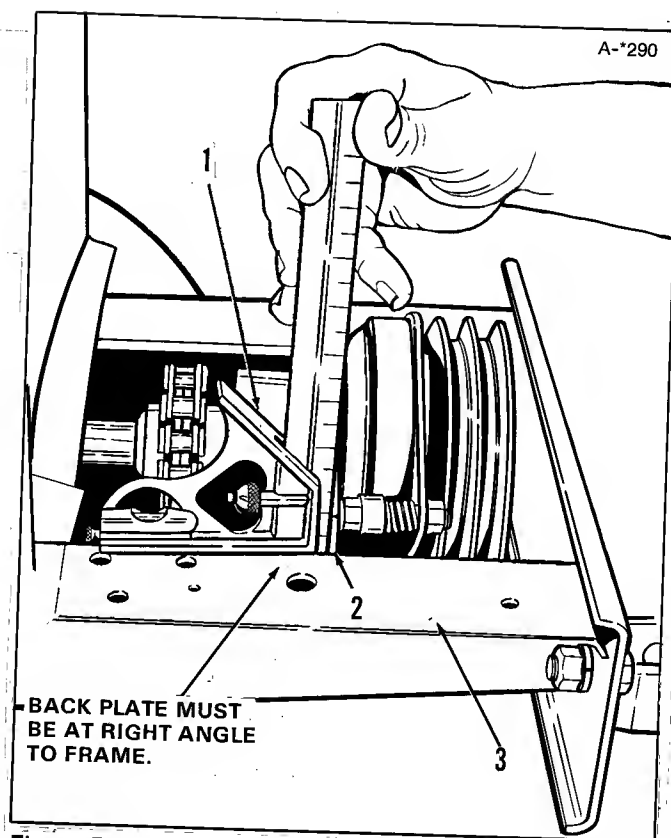

Figure 5.
- d. Use a "square" as shown in figure 5 to align the clutch in the frame. Place the square against the clutch back plate and the top of the frame to insure that clutch is straight, then tighten the four bolts and nuts. (On some models, battery support will prevent square from being positioned as shown. Position square from bottom of frame).